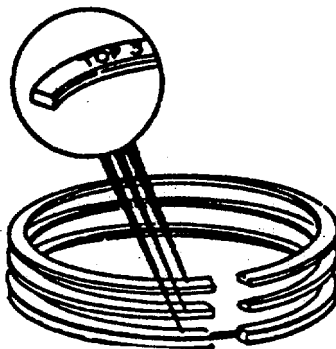

FIGURE 4-49. Installing Piston Rings
- e. Install the piston rings. The top surface of all the rings are identified by the word "TOP" as shown in FIGURE 4-49.